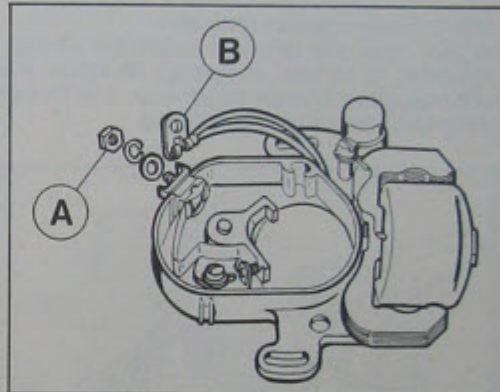
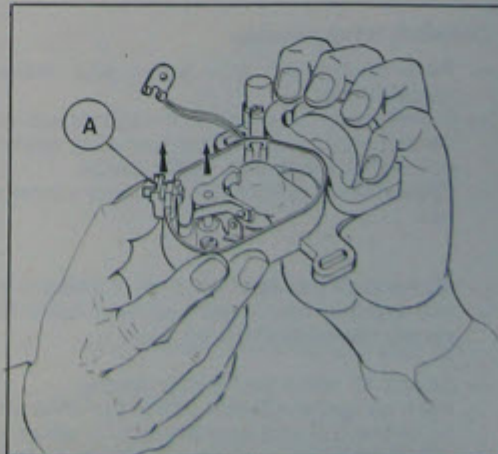

Fig. 14 Removing terminal "B"
Fig. 15 Removing points and insulator
- Remove nut securing leads to breaker points A (Fig. 14). Remove breaker by lifting out and simultaneously easing insulator block A from box (Fig. 15).